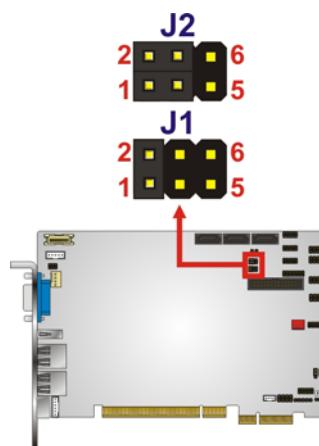

Figure 4-9: COM 3 Function Select Jumpers Locations
**Jumper Location:** See Figure 4-9